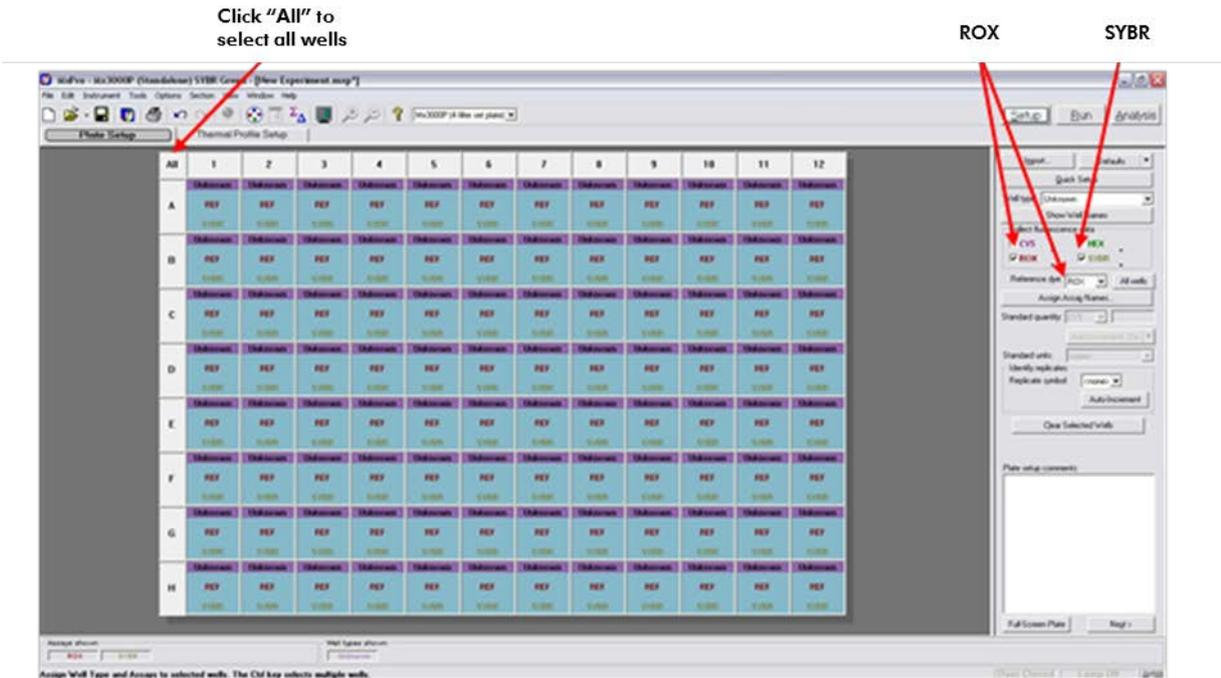

Figure 1. Plate setup.
4. On the "Plate Setup" tab (see Figure 1), click the square button with the word "All" on the top left corner of the diagram of the 96-well plate to select all wells. The selected wells will be highlighted in green.